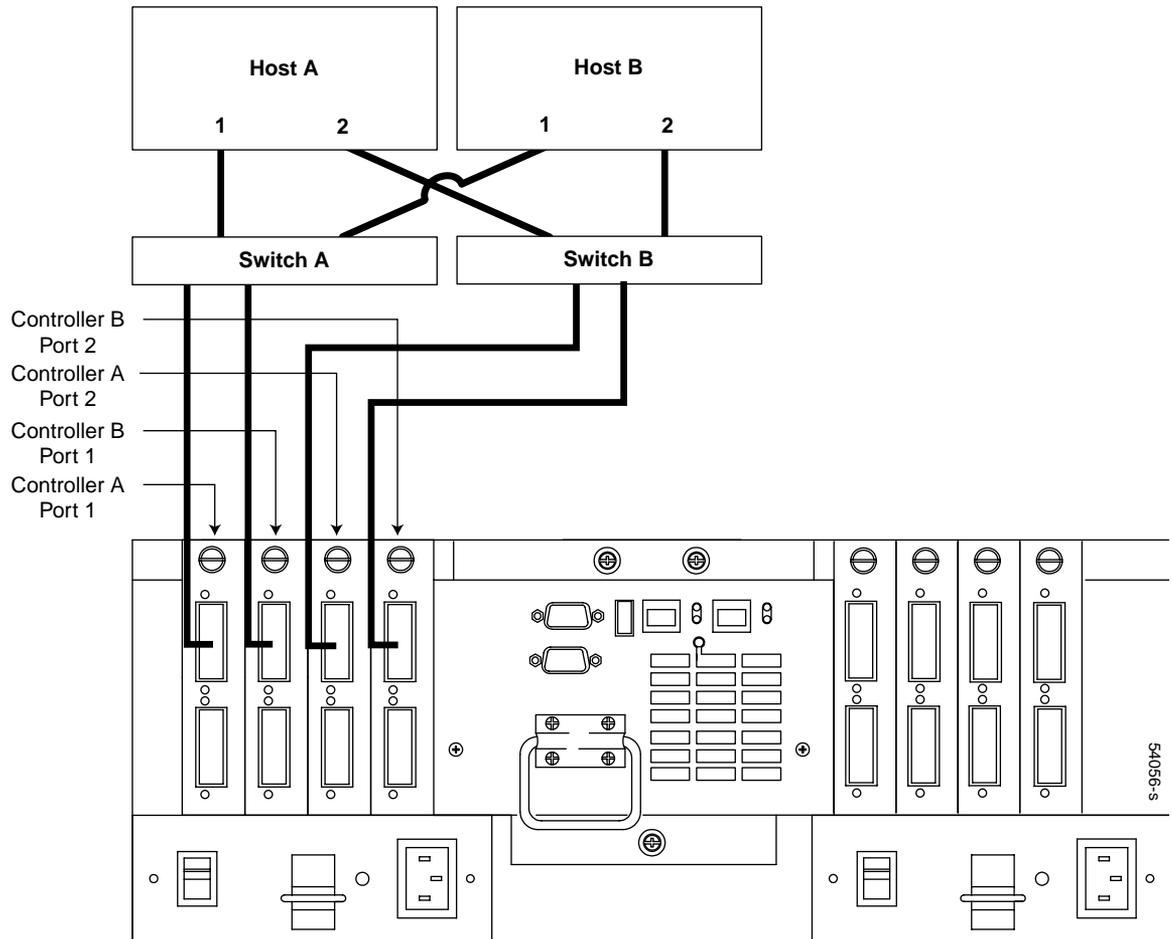

Figure 8-12 Multi-Switch Connect — 2 Host
Figure 8-12 shows a High Availability (HA) switch configuration.